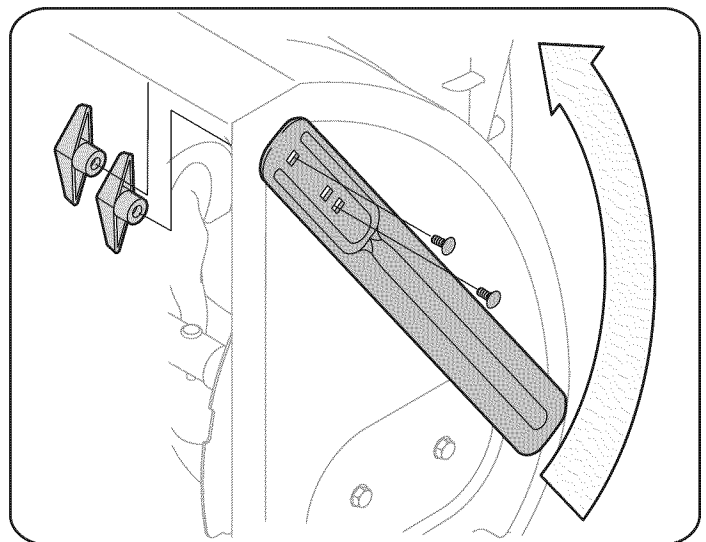

Figure 7
1. Remove the four wing knobs (two on each side) and carriage bolts. Place drift cutter in upright position and re-secure. See Figure 7.